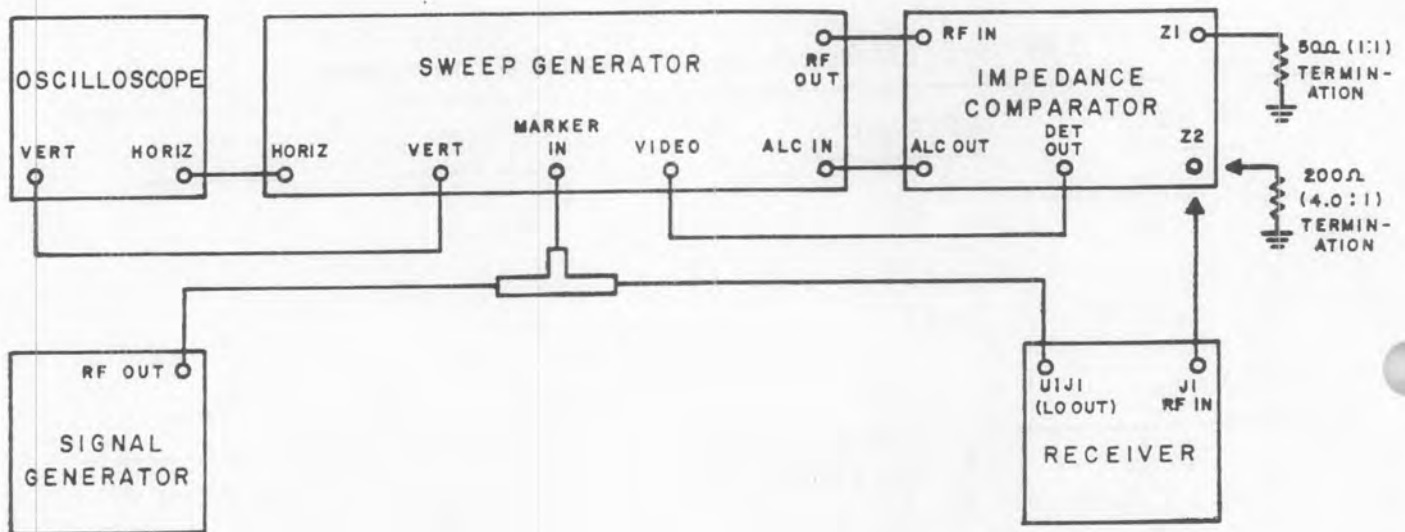

Figure 4-13. Test Setup, Preselector Network Alignment
- (1) Connect the test equipment as shown in Figure 4-13. Tune the sweep generator and tuner to 26 MHz. Tune the signal generator to 21.4 MHz. Connect the rf input on the receiver to the Z2 input on the impedance comparator and adjust the sweep generator and oscilloscope controls for an undistorted sweep response with the marker visible.
- (2) Disconnect the rf input on the receiver from the impedance comparator and substitute a 200 ohm (4:1 vswr) termination. A straight horizontal line should appear on the oscilloscope screen representing a 4:1 vswr response. Use the position control on the oscilloscope to make the horizontal line coincide with the X-axis. Remove the termination from the Z2 input on the impedance comparator and reconnect the rf input on the receiver.